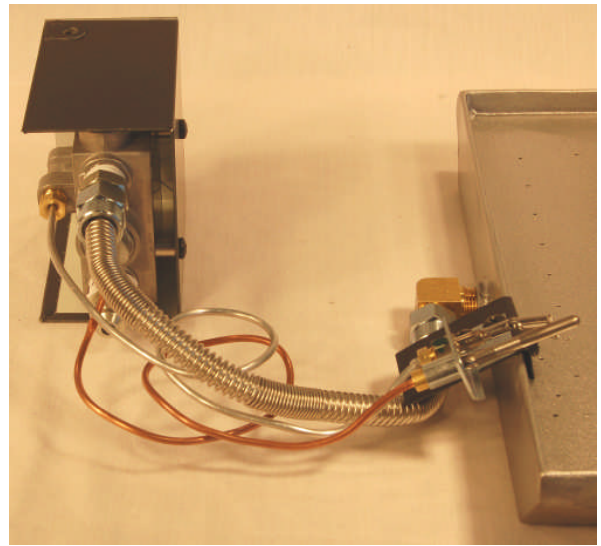

FIGURE 9 – VALVE GAS TRAIN – REAR VIEW
- 4- Attach the 3/8" stainless steel flex line from the valve to the burner. (SEE FIGURE 9)